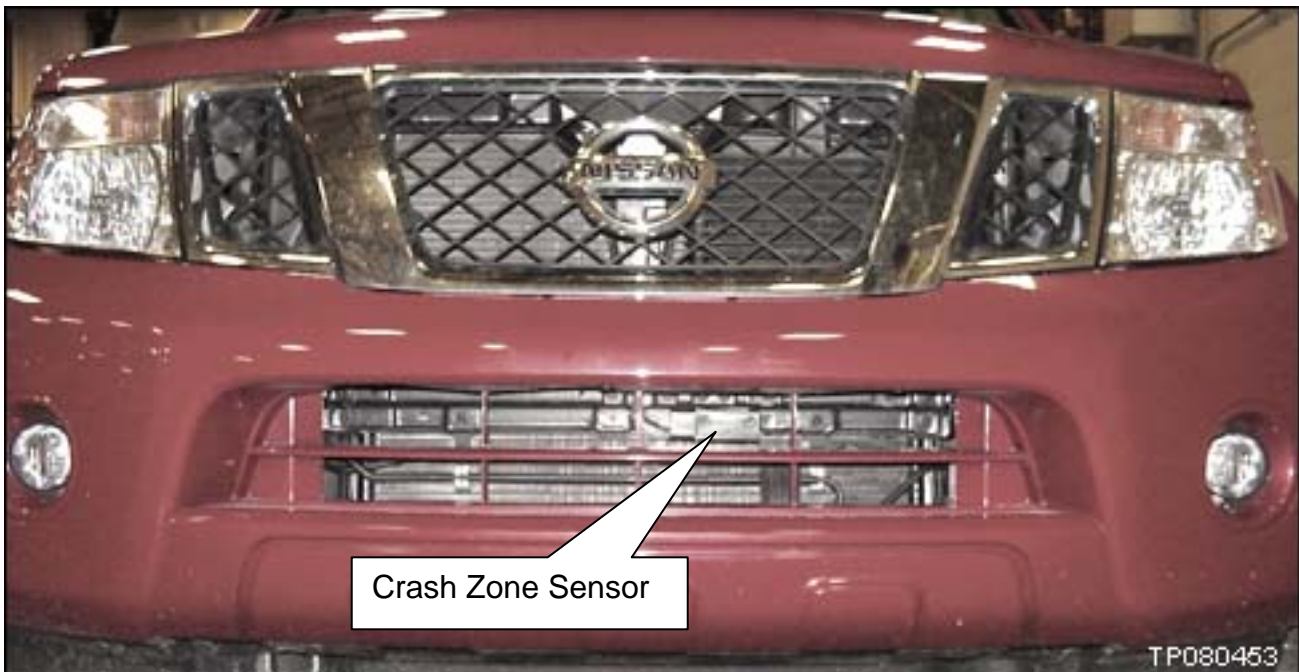

Figure2
8. Locate the Crash Zone Sensor (see Figure 2).